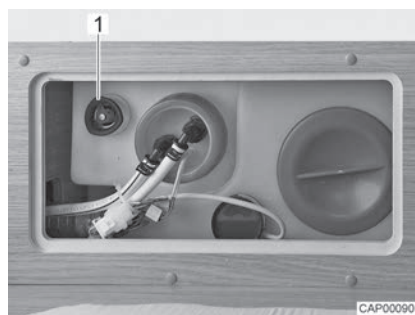

Fig. 141 Water tank with rotary handle
- Turn the rotary handle (Fig. 141,1) on the water tank in a clockwise direction as far as it will go.
- Turn the rotary handle (Fig. 141,1) on the water tank in an anticlockwise direction as far as it will go. Excess water will drain away leaving approx. 20 litres in the tank.